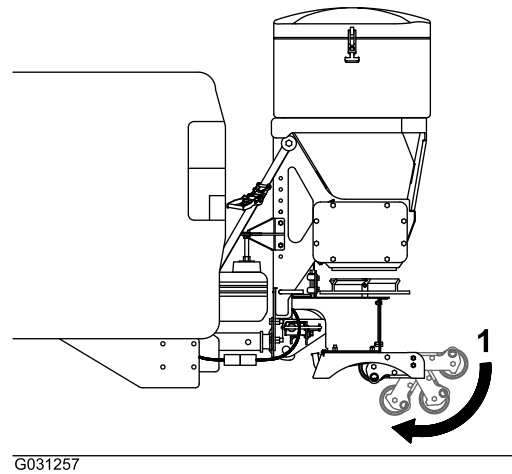

Figure 23
8. Step on the leg-assembly wheels to pivot them and stow them under the leg assembly (Figure 23).